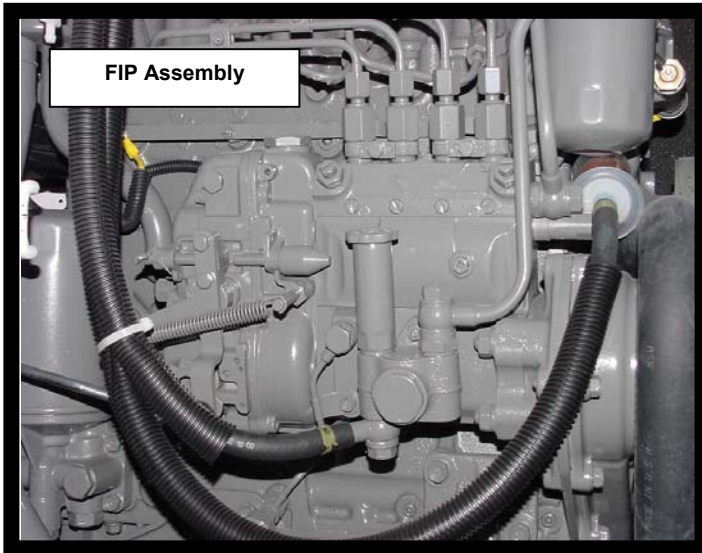

Figure 1 Fuel Injection Pump Assem.
2. Locate the Fuel Priming Pump (FPP) on the side of the Fuel Injection Pump (FIP)(Figure 1 & 2).